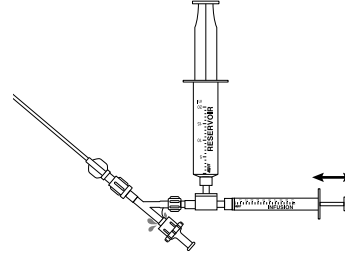

Figure 7
10. The 1 ml infusion syringe should be activated so heparinized saline from the 20 ml reservoir syringe comes through the back end cap of the hemostasis valve. (Figure 7) When all the air has been displaced, the back end cap should be tightened onto the proximal end of the occluding wire.